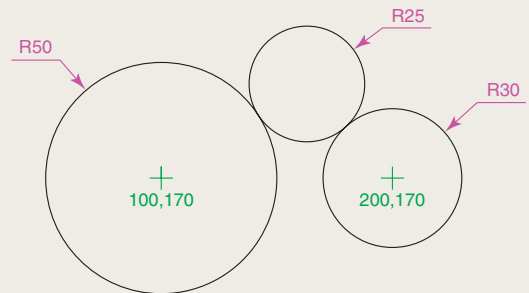

Fig. 2.31 Exercise 4
- Using the **Circle** tool, construct the two circles of radius 50 and 30. Then using the **Ttr** prompt add the circle of radius 25 (Fig. 2.31).